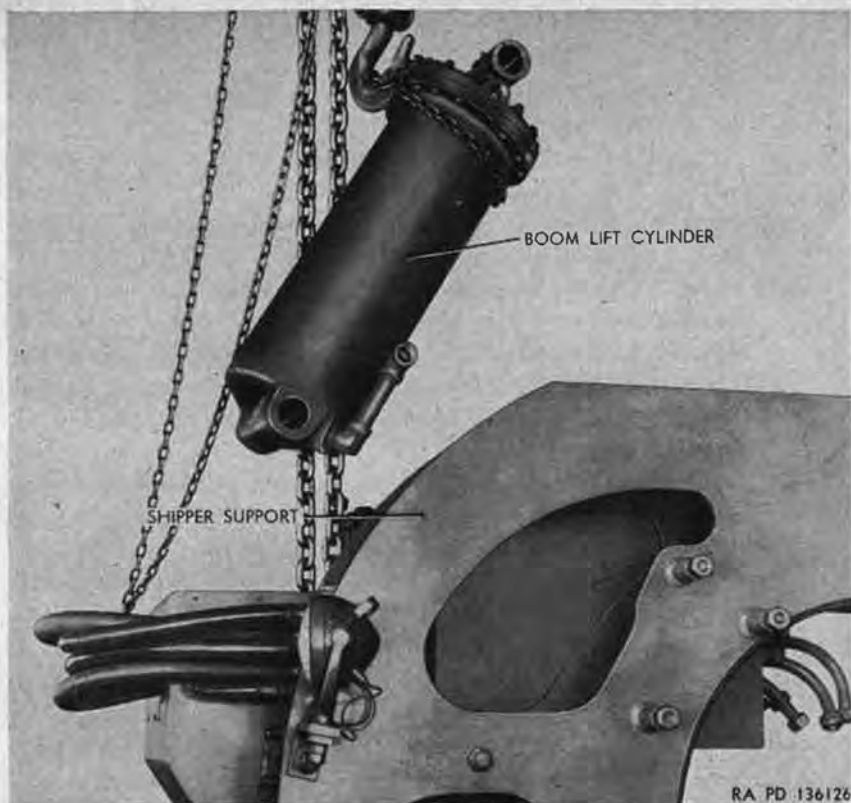

Figure 304. Removing boom lift cylinder.
- (6) Using a chain hoist (fig. 304), lift the boom lift cylinder from shipper support, and remove from vehicle.
- (1) Using a chain hoist (fig. 304), lift the boom lift cylinder into position between the sides of the shipper support.